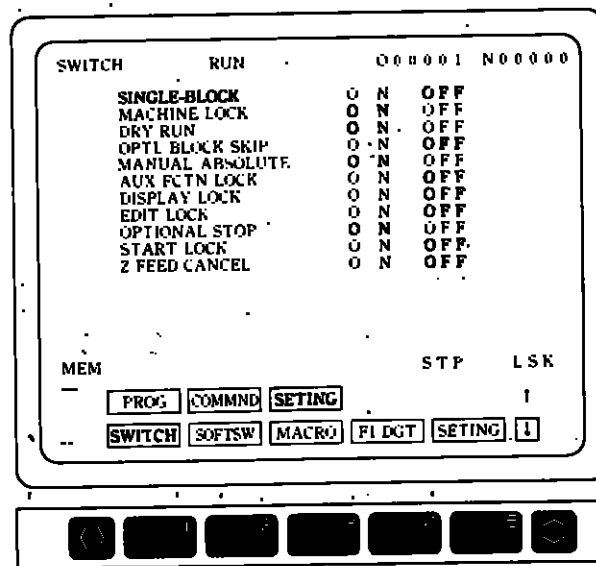

Fig. 3.4.71 Internal Switch Screen
- 1 Depress function soft key **SWITCH**. The internal switch screen shown in Fig. 3.4.71 is displayed. The switches on the screen can be turned on or off readily by setting from the NC operator panel even when switch setting is omitted on the machine control station. There are up to 15 switches on two pages.